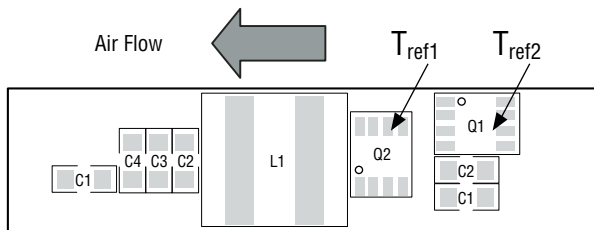

Fig. 30 Tref1 Temperature Measurement Location
The thermal reference points are (1)  $T_{ref1}$  and  $T_{ref2}$  as shown in Figure 30, and (2)  $T_{ref3}$  = temperature at controller IC. For reliable operation, none of these  $T_{ref}$  points should exceed 115 °C.